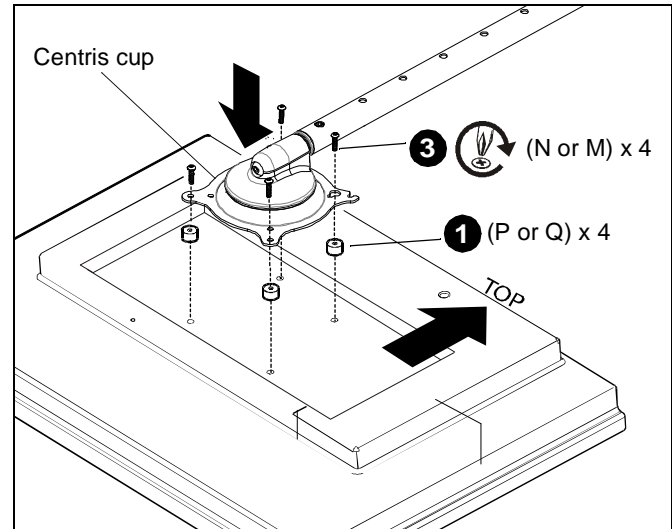

Figure 4
1. Install four .50 x .194 x 3/8" nylon spacers (P) or four .50 x .194 x 3/4" Nylon spacers (Q) as necessary over the mounting holes of your recessed display. (See Figure 4)